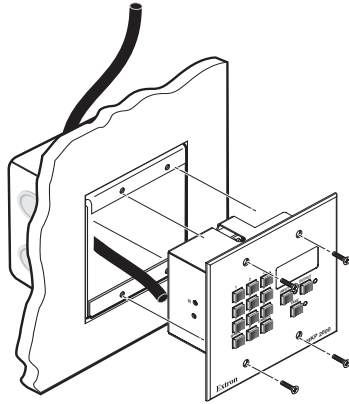

Figure 2-5 — Mounting the MKP to the wall box
3. Mount the MKP's faceplate to the mud ring or wall box with machine screws (figure 2-5).